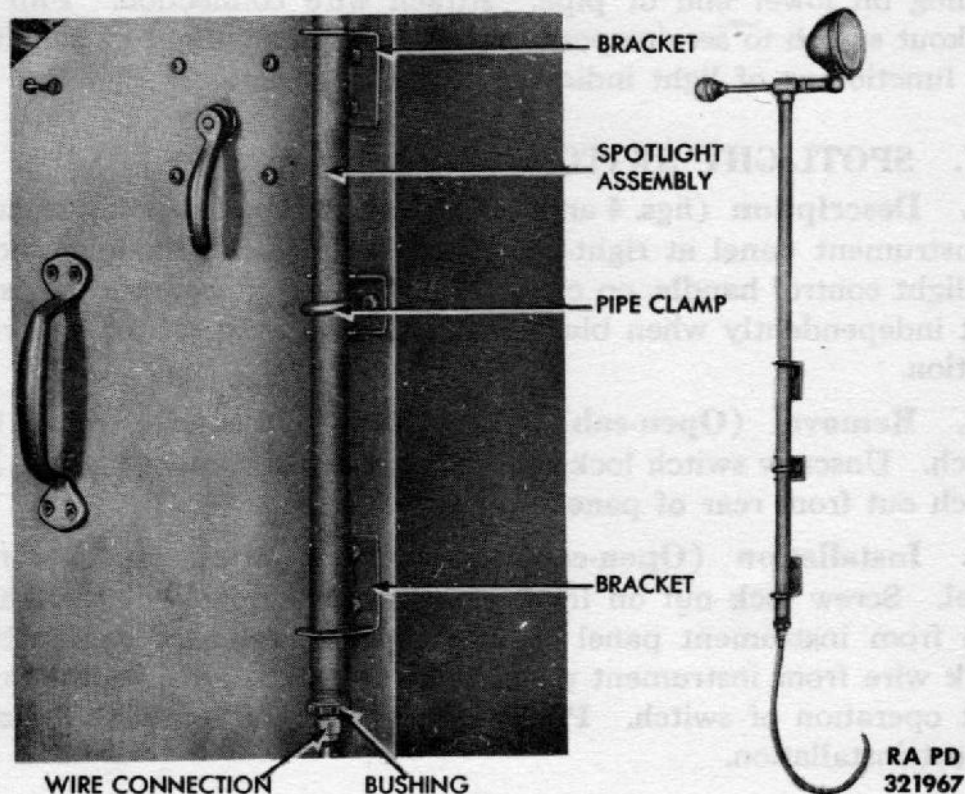

Figure 73 — Spotlight Installed
(1) DESCRIPTION (fig. 73). On open-cab models, the spotlight is mounted on upper end of a pipe which is attached to left rear outside of the cab by two brackets and a pipe clamp. Height of spotlight can be adjusted by loosening the pipe clamp and sliding the pipe up or down in the brackets. On closed-cab models, the spotlight is mounted directly on rear of cab. The spotlight is focused by means of split knob on end of control handle. Rotating outer end of knob pivots on its axis. Rotating inner half of knob pivots spotlight around axis of control handle.
(2) TABULATED DATA.
b. Removal (Open-cab) (fig. 73). Disconnect wire by unscrewing wire connection from spotlight light assembly at lower end. Unscrew bushing from lower end of pipe. Loosen wing nut securing pipe clamp. Slide spotlight assembly up out of brackets.
c. Installation (Open-cab) (fig. 73). Slide spotlight pipe through brackets. Tighten wing nut securing pipe clamp. Screw